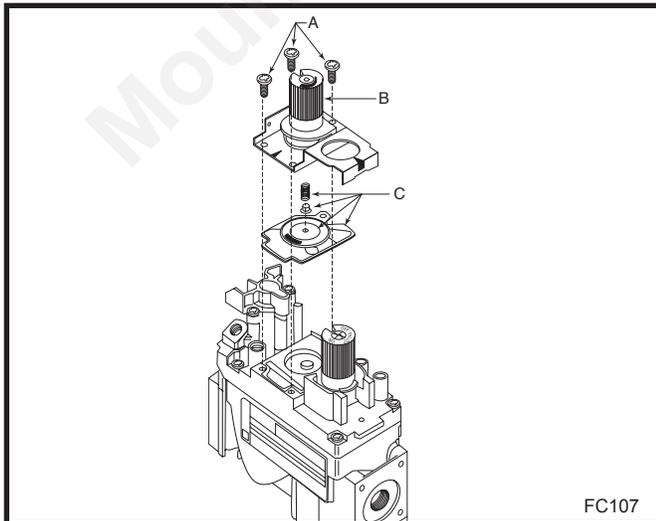

Fig. 64 Remove mounting screws, pressure regulator tower and spring and diaphragm assembly.
1. Using the TORX T20 bit, remove and discard the three (3) pressure regulator mounting screws (A), pressure regulator tower (B) and the spring and diaphragm assembly (C). (Fig. 64)